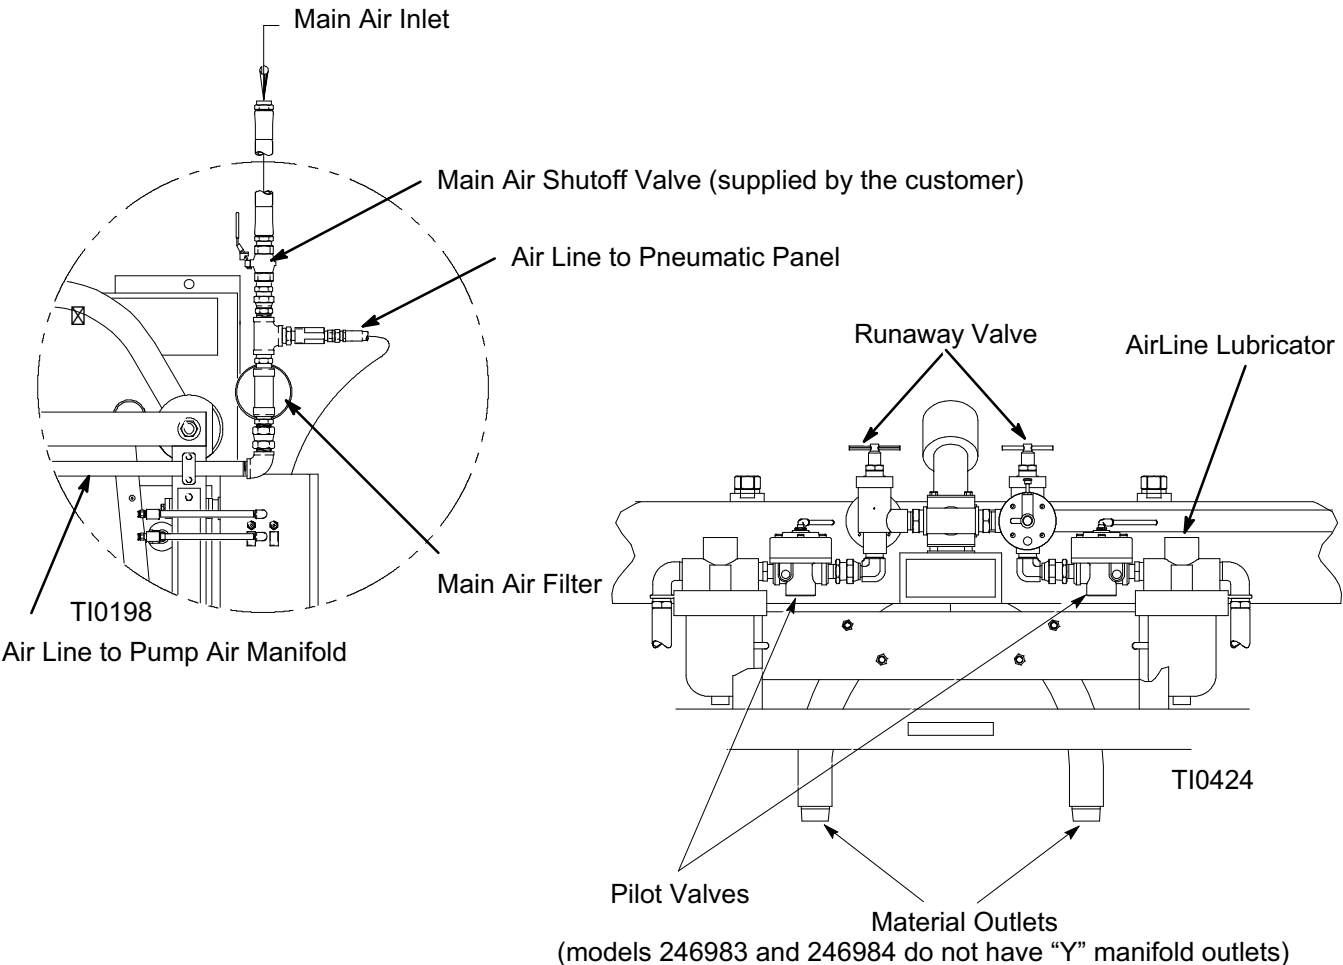

FIG. 6
4. Open the main air shut off valve, making air pressure available to the unit. See FIG. 6 on page 18.